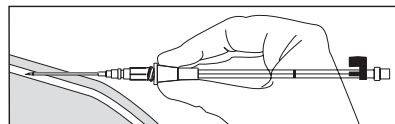

Figure 1
7. Perform arterial puncture. Blood flashback in clear hub of introducer needle indicates successful entry into vessel (refer to Figure 1).